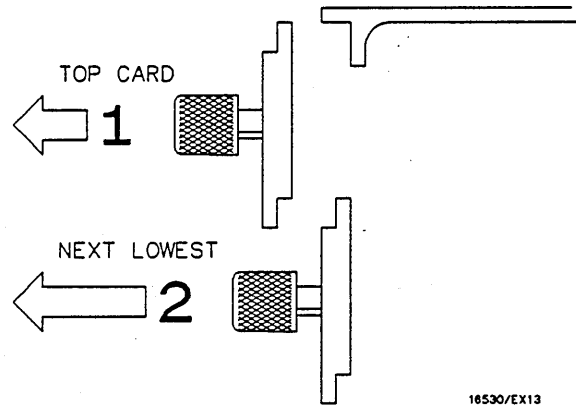

Figure 6-13. Endplate Overhang
3. Starting from the top, begin pulling card(s) and filler panel(s) out half way. See figure 6-13.